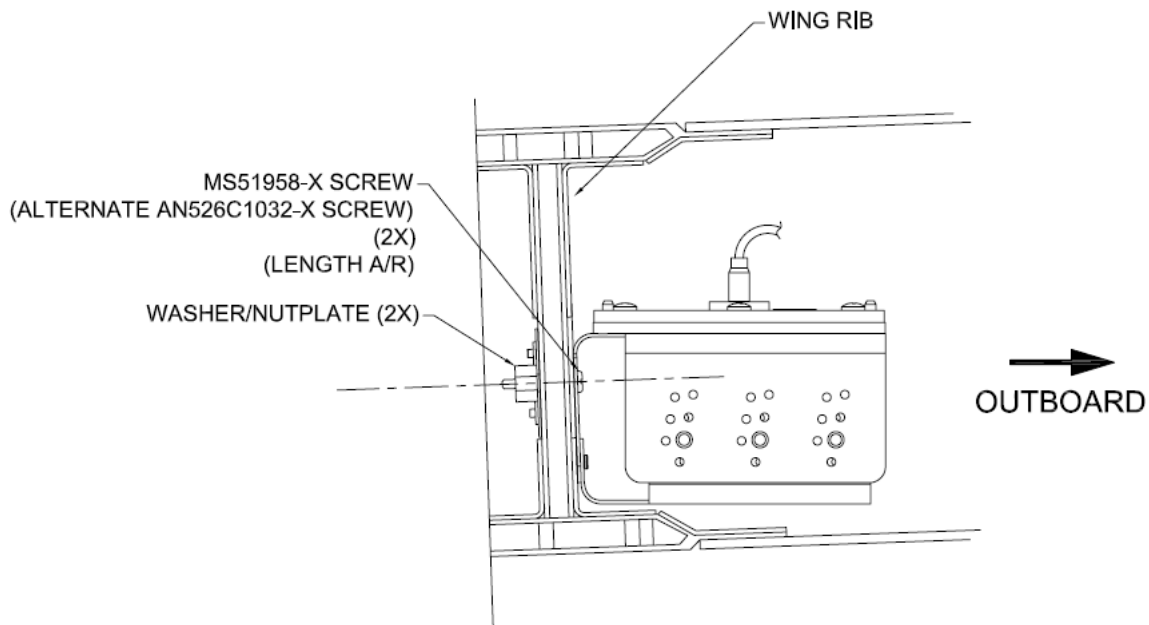

Figure B-18 Magnetometer Assembly attached to Wing Rib
16. Attach GMU assembly to wing rib as shown in Figure B-18.